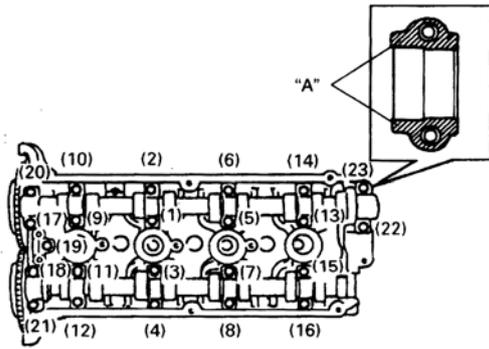

Fig.4-114
- 6) After apply oil to bearing cover bolt, fix bolt first, then tighten bolt according to number order as shown in Fig.4-114, tighten it 2 or 3 times to reach specified torque.